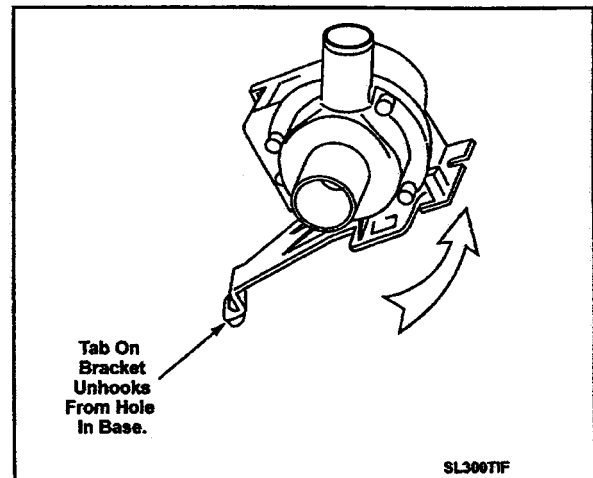

Figure 2-26
- Lift the recirculation pump at an angle to disengage the locating tab of the mounting bracket from the baseframe (*Figure 2-26*).